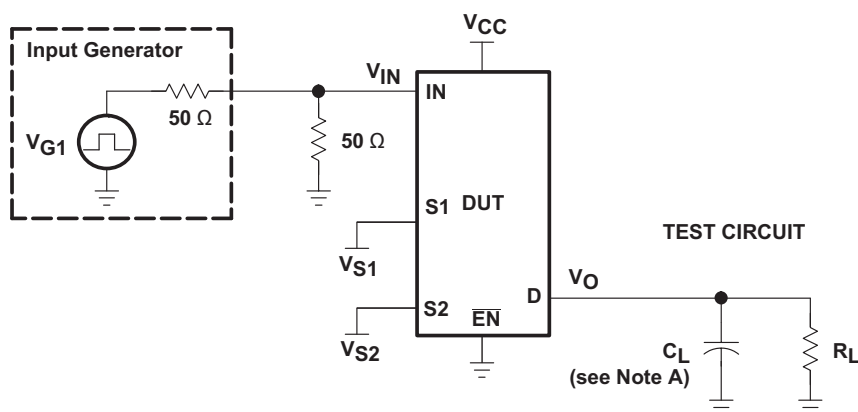
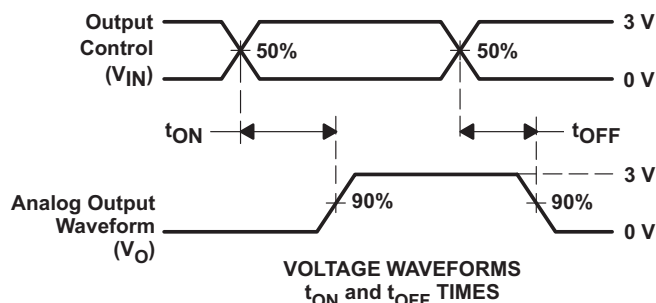

**Figure 7. Device Test Setup**
**Figure 8. Transient Input Voltage ( $V_i$ ) and Output Voltage ( $V_{OUTU}$ ) Waveforms (Switch OFF)**
**Table 3. UNDERSHOOT CHARACTERISTICS (see Figure 7 and Figure 8)**